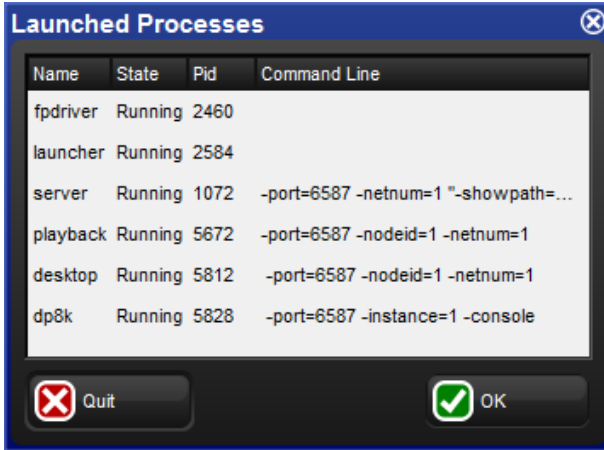

Figure 33.1. The Launched Processes window
1. Plg + Open + Backspace : open the Launched Processes window; see *Figure 33.1, “The Launched Processes window”*.